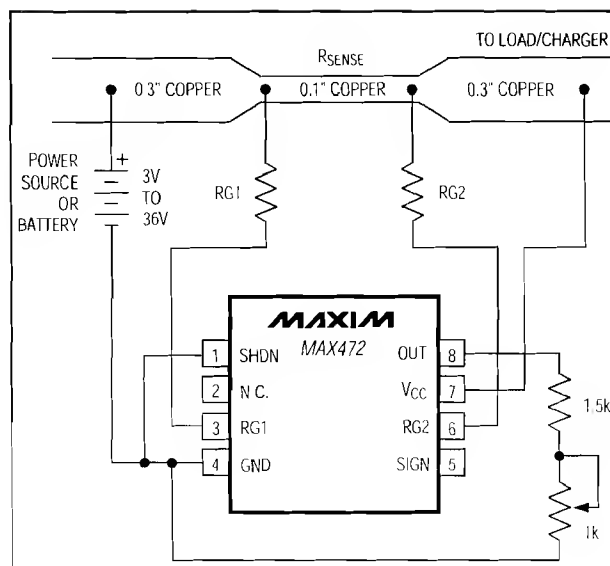

Figure 6. MAX472 Connections Showing Use of PC Board Trace
- Cost:** If the cost of R_{SENSE} becomes an issue, you may want to use an alternative solution, as shown in Figure 6. This solution uses the PC board traces to create a sense resistor. Because of the inaccuracies of the copper "resistor," you will need to adjust the full-scale current value with a potentiometer. Also, the resistance temperature coefficient of copper is fairly high (approximately $0.4\%/^{\circ}\text{C}$), so systems that experience a wide temperature variance should take this into account.
In Figure 6, assume the load current to be measured is 10A and that you have determined a 0.3 inch wide, 2 ounce copper to be appropriate. The resistivity of 0.1 inch wide, 2 ounce copper is $30\text{m}\Omega/\text{ft}$ (see Note 4). For 10A you may want $R_{\text{SENSE}} = 5\text{m}\Omega$ for a 50mV drop at full scale. This resistor will require about 2 inches of 0.1 inch wide copper trace.